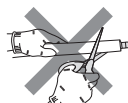

Fig. 1
- Pull out the drain cap at the back right of the indoor unit. (Fig. 1)
- Do not cut the drain hose of the unit. (Fig. 1)
- 1) Cut the copper pipe as straight as possible with a pipe cutter. (Fig. 1, 2)